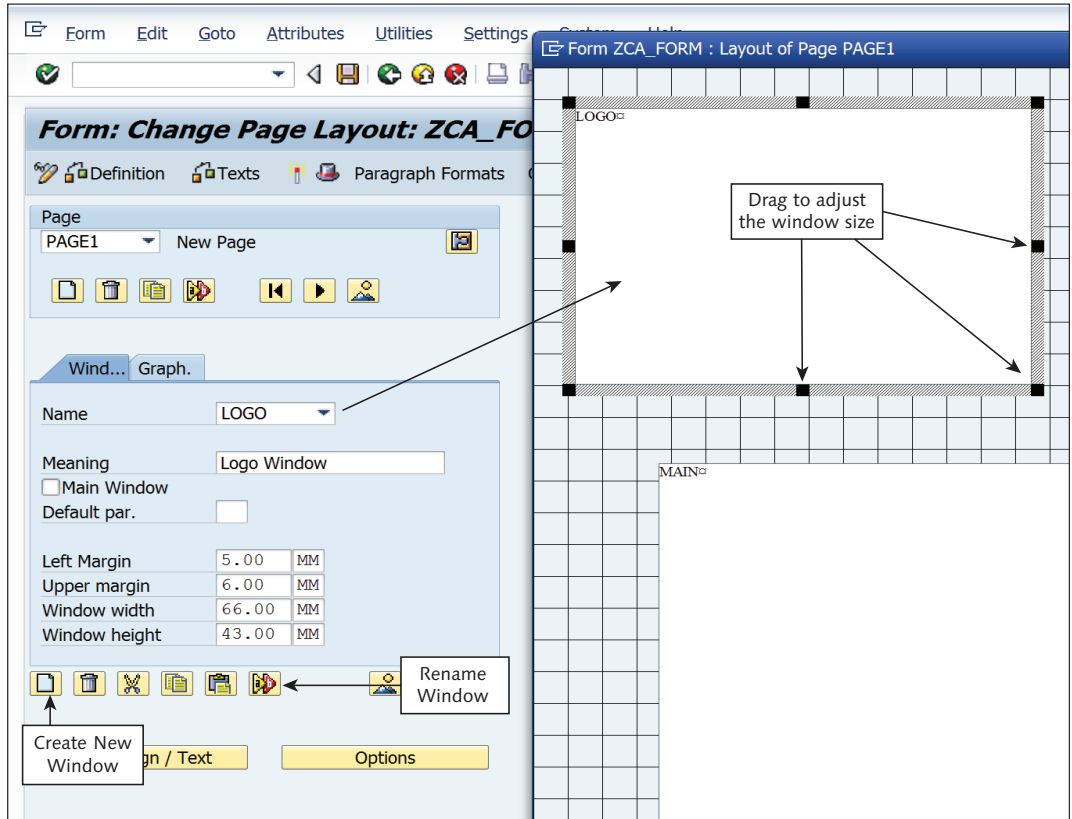

Figure 18.8 Creating New Window
6. Click the CREATE WINDOW button to create a new window. The window appears in the graphical Form Painter, where you can adjust its size and position (see Figure 18.8). Rename the window to reflect the content it shows and provide a meaningful short description. Providing a meaningful name and short description for the window is important because it helps other developers easily maintain your form.